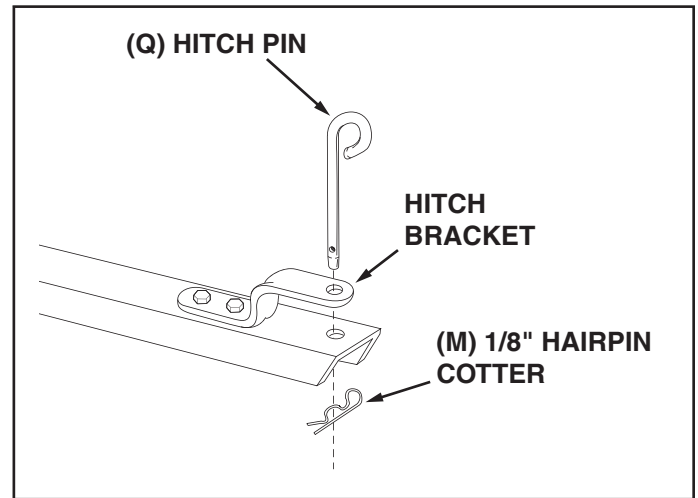

FIGURE 11
STEP 10: (SEE FIGURE 11)
- Assemble the hitch pin (Q) through the tongue and hitch bracket and secure it with the 1/8" hairpin cotter (M).